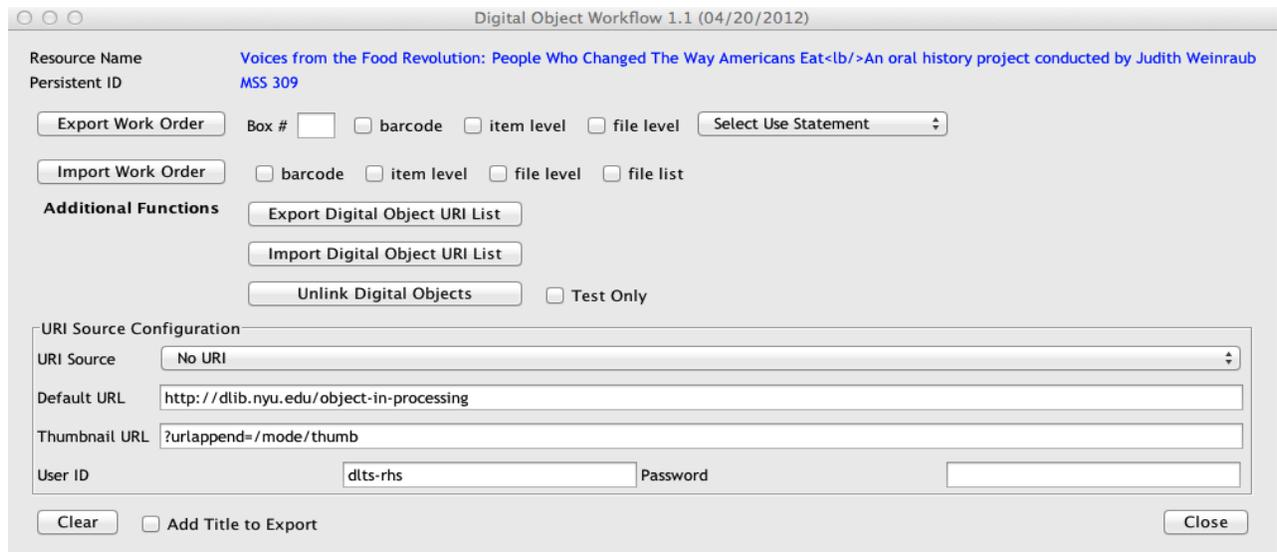

Figure 2
2. Select the “DO Workflow” from the RDE drop down menu. This will open the “Digital Object Workflow” dialog as seen in figure 2.